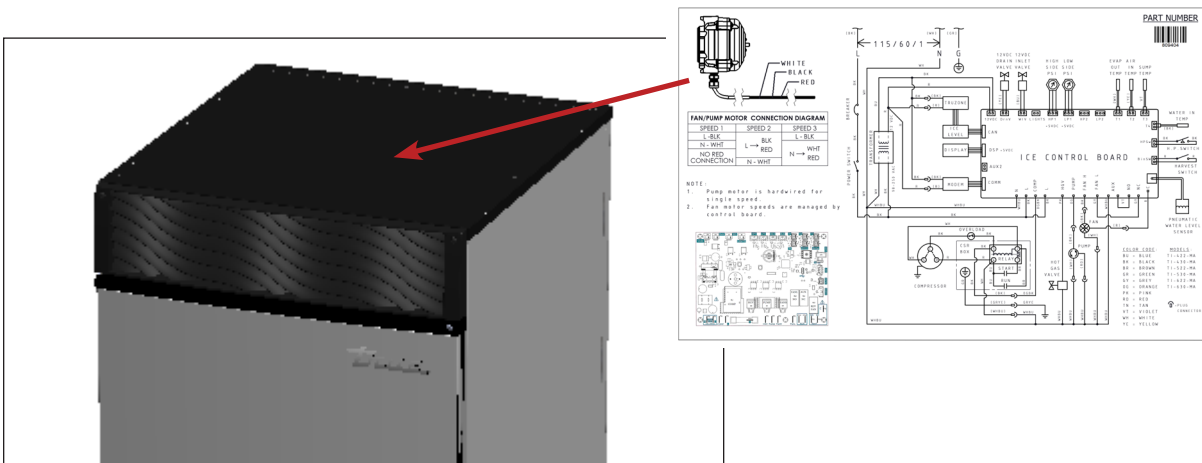

Fig. 1. Wiring diagram located under the top panel.
- See wiring diagram beneath the top panel as shown in fig. 1. To access, see "Panel Removal" (pg. 28).